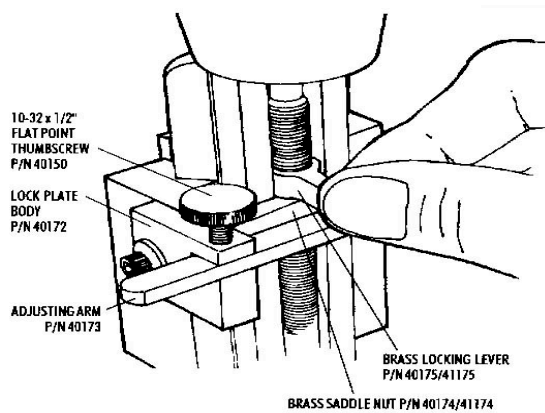

Figure 1
To lock or unlock the 'Z' axis {Please see Figure 1 for reference of part names.}:
- (1) Loosen the Flat Point Thumbscrew.
- (2) Move the Adjusting Arm to the desired position:
- ii. Unlocking: Move the Adjusting Arm as far right as possible so that the Brass Locking Lever is as far right as it will go (as seen in Figures 1 and 2).
- (3) Tighten Down the Flat Point Thumbscrew.